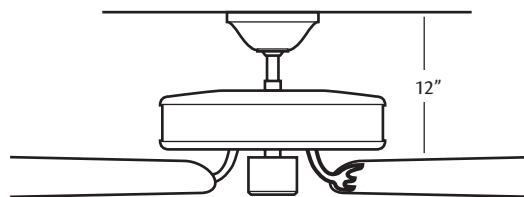

Figure 1 - Standard mounting
**Standard Mounting** (Figure 1) hangs from the ceiling by a downrod (included), for ceilings 8 feet or higher. For ceilings higher than 8 feet, you can purchase Hunter extension downrods. All Hunter fans use sturdy 3/4" diameter pipe to assure stability and wobble-free performance.